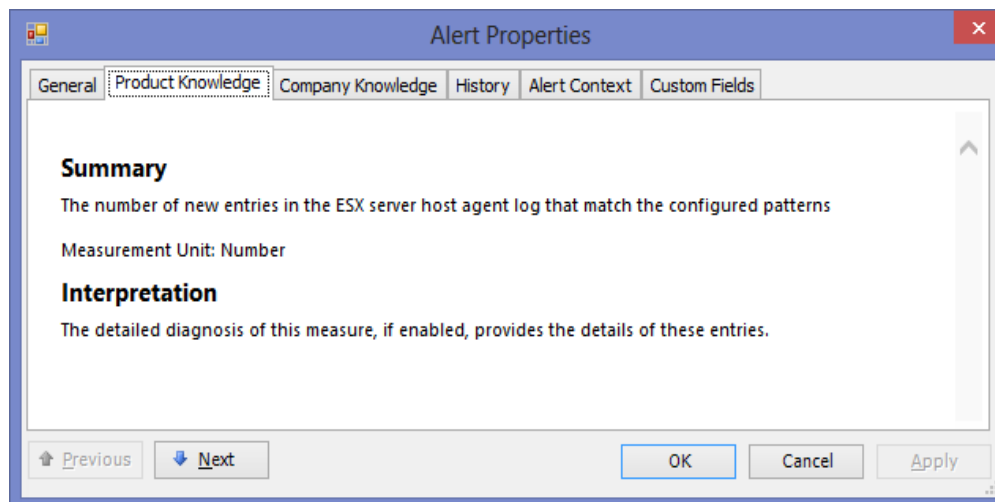

Figure 4.4: The description of a measure reported by a test
- To understand a problem better, click on the **View additional knowledge** link and tap the knowledge base of the eG Enterprise system. The **Product Knowledge** tab page of the **Alert Properties** window will automatically open displaying the details related to the measure on which the selected alert was raised. Figure 4.4 depicts a sample **Alert Properties** window displaying the details of the **Number of system errors** measure.